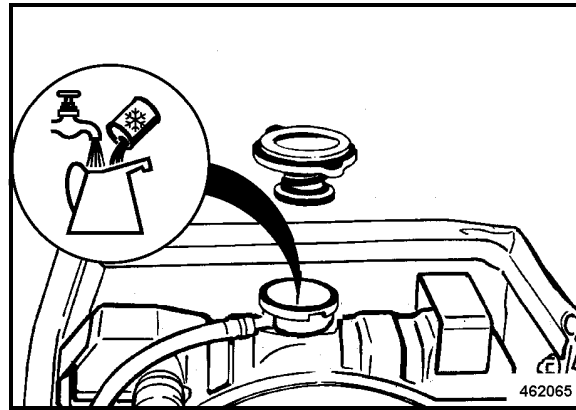

Fig. 163
- Fill in coolant until the level reaches the bottom edge of the filler socket (Fig. 163).